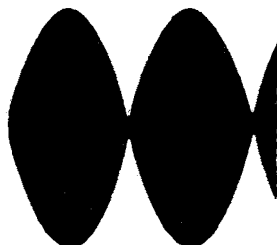

Figure 3-1
- Adjust VR151, SUB BAL(T-4088, stereo generator board) for a symmetrical sub-channel signal as shown in Figure 3-1.